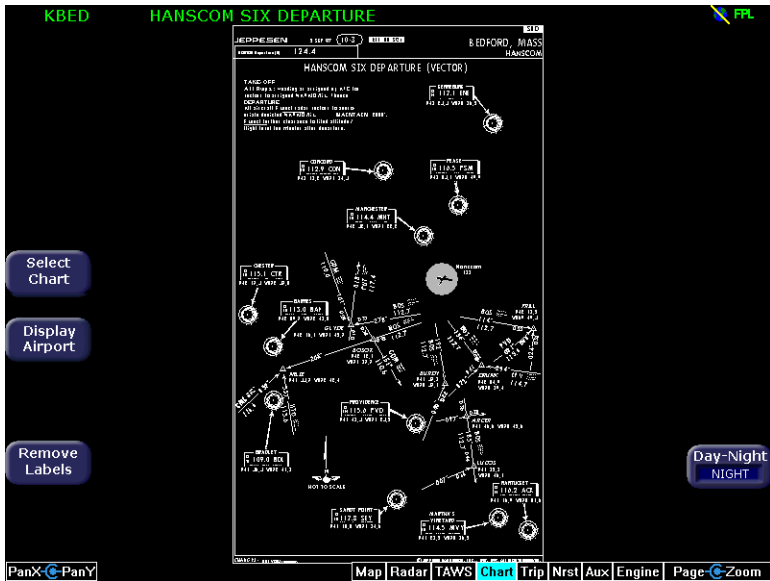

Figure 6.5 Airport Departure Chart (Night View)
- 11) **Day/Night**—Toggles the chart display mode between the Day (black text on a white background) and Night (white text on a black background) modes. Other colors such as water or shaded terrain are also adjusted between Day and Night modes. See Figure 6.5 on page 59 for an example of a chart in Night Mode.
Charts that cannot be split into smaller sections are shown as a complete chart, as shown in Figure 6.5, with the View button not displayed, since only one View type is available.